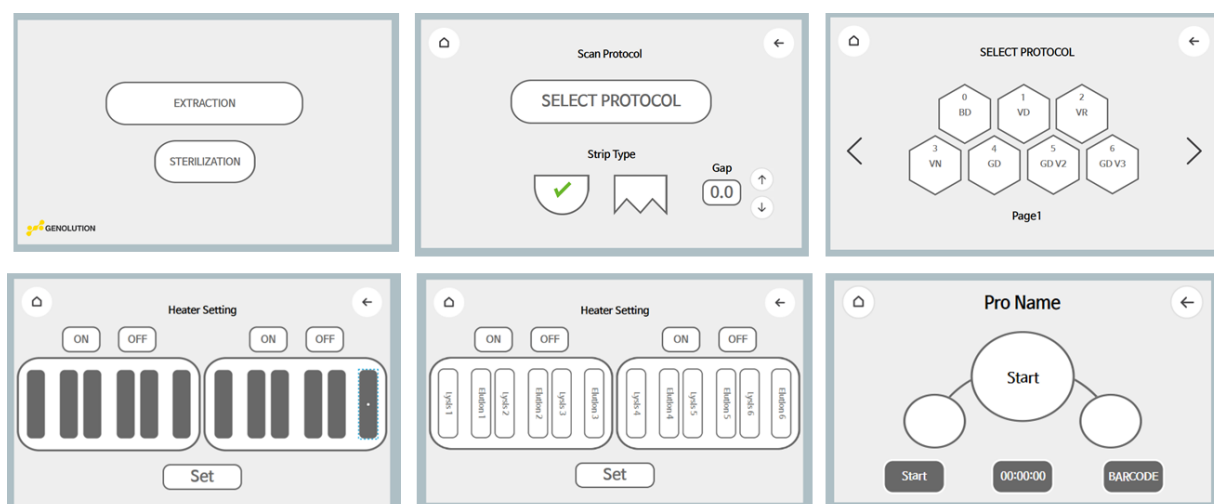

Figure 5: Protocol setting screens
- Select Extraction → Select Round Strip Type → Select Protocol → Select VN → Touch the On / OFF button to select the heating region for the left and right plate loader → Press the Set button to complete the setting → START (Figure 5)